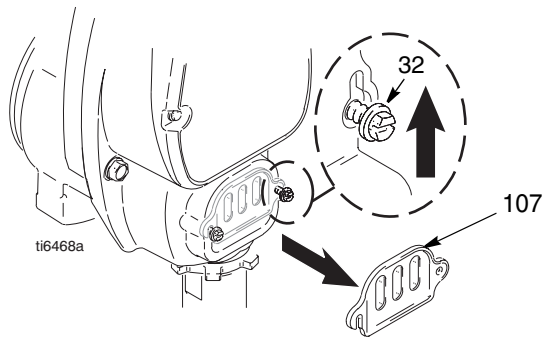

FIG. 15
4. FIG. 15. Loosen two screws (32) and remove pump rod cover (107).